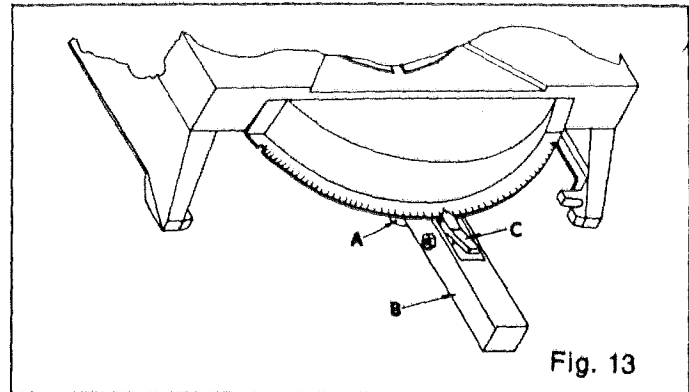

Fig. 13
Your miter saw will cut any angle from 0° to 47-1/2° left and right. To operate miter arm release lock lever (A) on underside of miter arm (B) by turning counterclockwise. See Figure 13. Depress detent lever (C), move miter arm to desired angle, and tighten lock lever (A). Your miter saw also has positive stops at 0° and 45° left and right. When any of these cuts are desired release lock lever (A) on underside of miter arm (B). Release detent lever (C) and move miter arm to desired angle. The spring loaded positive stop engages in the indent automatically.